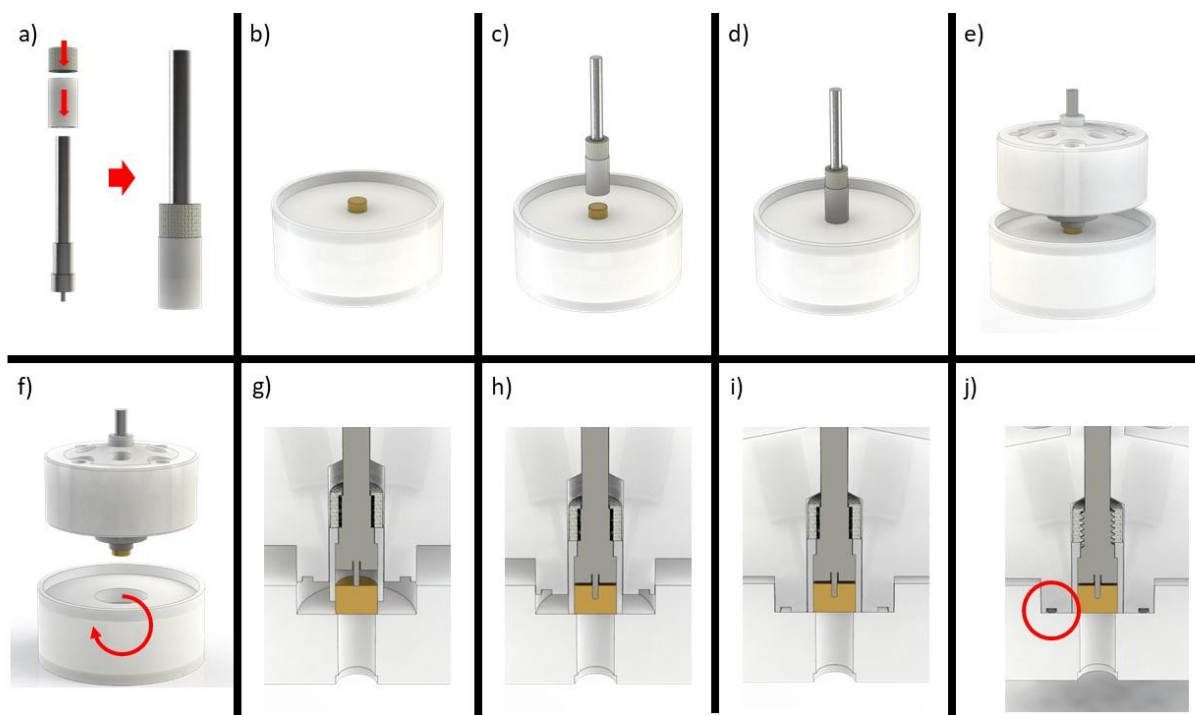

Figure 30: Assembly of the EC cell.
The EC cell consists of the disk core assembly and the cell described in Chapter 5.5.4. The following sections and Figure 30 describe how to assemble the EC cell before a measurement.
2. Place a PTFE U-cup and the U-cup nut on the disk contact core and tighten the nut as shown in Figure 30 a.
3. Place the working electrode with the active surface facing down in the small circular groove in the mounting block as shown in Figure 30 b. The mounting block is designed to minimize surface exposure of the electrode during mounting, thereby preserving a clean surface. Alternatively, a clean planar surface can be used (such as an upside-down glass petri dish covered with aluminium foil).
4. Slide the U-cup assembly onto the electrode as shown in Figure 30 c and d. Since the U-cup is larger than the electrode, at this stage the electrode is not retained by the U-cup assembly and is still free to fall off. Leave the U-cup assembly on the mounting block as shown in Figure 30 d.
5. Slide the EC-cell onto the U-cup assembly (Figure 30 e). Push the EC-cell down until it grips the U-cup and the contained electrode. Just push enough that the electrode does not fall off. This will make sure that the U-cup assembly stays in the EC cell when the mounting block is flipped in the following step.
6. Turn the mounting block to expose the larger groove (Figure 30 f).
7. Insert the Cell into the mounting block groove (Figure 30 g).
8. Push the electrode into the U-cup but leave the U-cup out of the cell. In this phase, use a finger to apply pressure on the shaft, and do not apply pressure on the cell (Figure 30 h).
9. Push electrode together with U-cup into the cell (Figure 30 i). The goal is to bring the surfaces of electrode, U-cup, and EC-cell exactly flush.